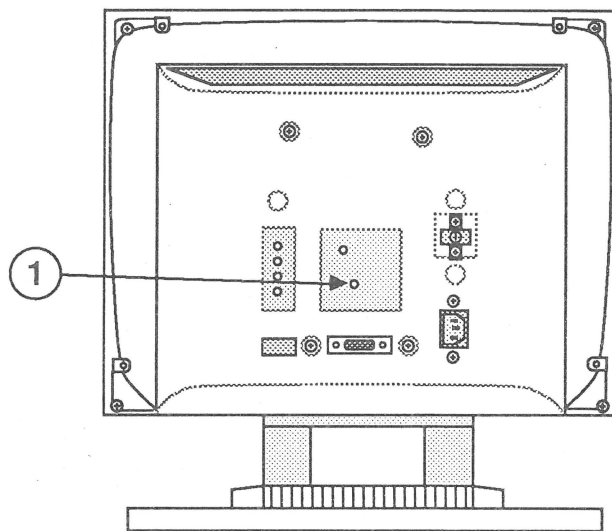

FIGURE 16
4. If the reading is not at the high end of "9," use a plastic alignment tool to adjust the SUBCONTRAST control (Figure 16, #1) until the screen luminance falls at the high end of the "9" on the light meter scale.